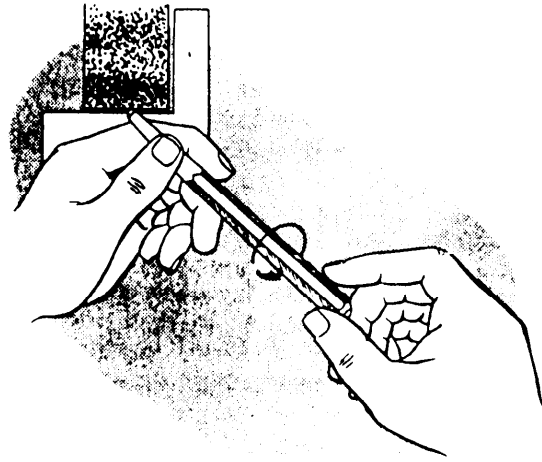

Figure 5-25.—Grinding a center punch with a bench grinder.
- **Center punches:** To sharpen a center punch, rest your hand on the tool rest of the grinder and cradle the end of the punch between the index finger and thumb of one hand, as shown in figure 5-25. Move the punch into light contact with the rotating grinder wheel, with the center line of the punch forming about a 45° angle with the face of the wheel. This will give the approximate 90° included angle required for a center punch. With the thumb and index finger of the other hand, rotate the punch as shown by the directional arrow in figure 5-25. Dip the punch in coolant frequently during the process.